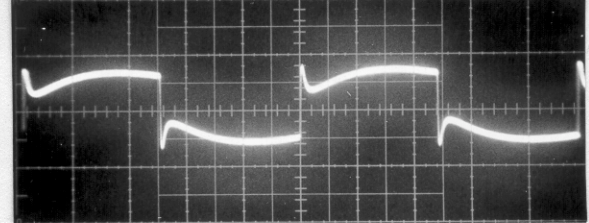
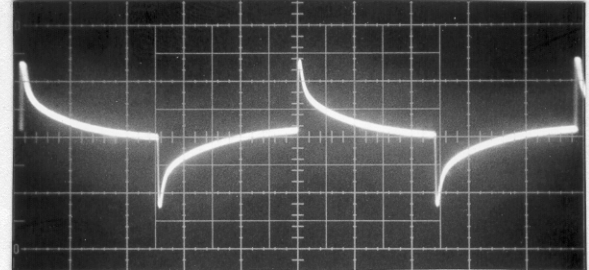

Fig. 8. Bass to 10.
Fig. 9. Bass to 0.
- D) Bass to 10-Fig.8; Bass to 0- Fig.9.